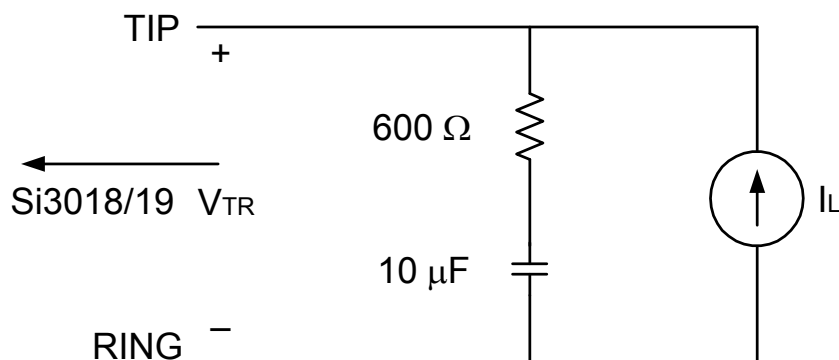

Figure 1. Test Circuit for Loop Characteristics
($V_D = 3.0$ to 3.6 V, $T_A = 0$ to 70 °C for K-Grade, see Figure 1 on page 6)
1. Measured at TIP and RING with 600Ω termination at 1 kHz, as shown in Figure 1 on page 6.
1. Measured at TIP and RING with 600 Ω termination at 1 kHz, as shown in Figure 1 on page 6.